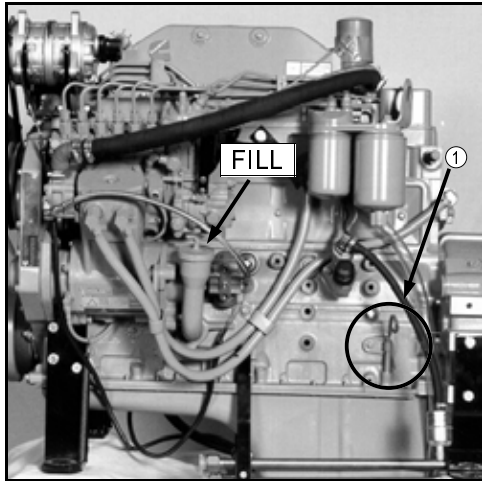

FIG 8.1
OIL LEVEL - The engine oil level dipstick is located on the left-hand side of the engine (fig. 8.1, item 1). Never operate the engine with the oil level below the “L” (low) mark or above the “H” (high) mark. Wait at least five minutes after shutting off the engine to check the oil level; this allows time for the oil to drain to the oil pan. Check the engine oil level daily.